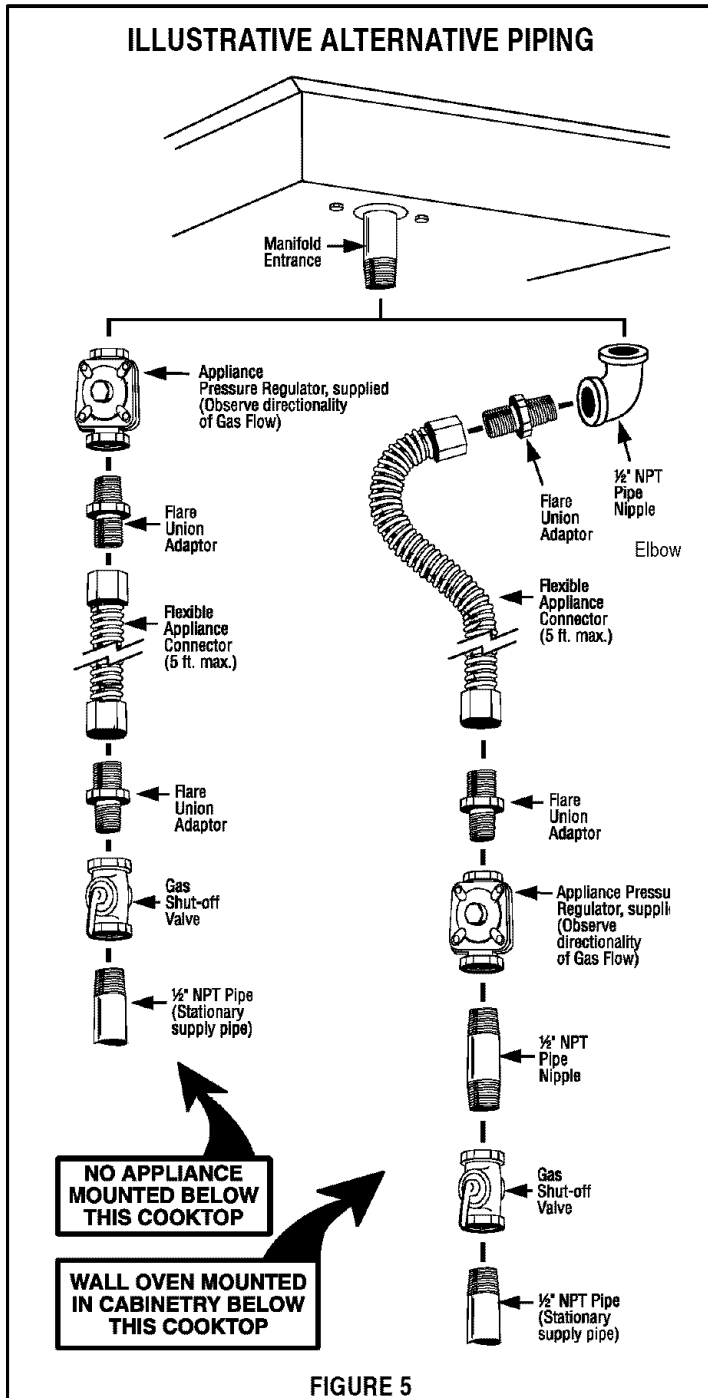

FIGURE 5
- If the alternative piping method shown in figure 5 is selected for the installation, no ground joint union is required. (The flexible appliance connector illustrated provides the union joints necessary for servicing.) When a dividing wall is present and a flexible connector is used it is recommended for convenience, in both installation and service, the flexible connector, itself, pass through the dividing wall. **Any flexible connector used with this appliance must satisfy all requirements stated in the text accompanying figure 5.**